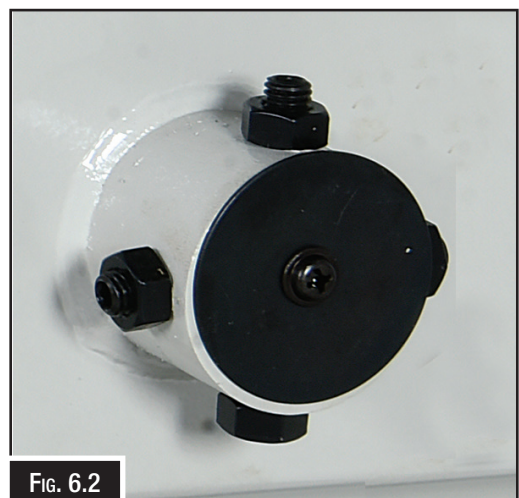

FIG. 6.2
4. The hub on the bottom wheel allows you to adjust the lower wheel in the desired direction. By loosening the lock nuts and turning all the grub screws clockwise in equal amounts, pushes the wheel forward. Turning all the grub screws counter clockwise moves the wheel towards the back of the machine. When the grub screws are adjusted individually, each grub screw controls the direction that the wheel tilts. (Fig. 6.2)